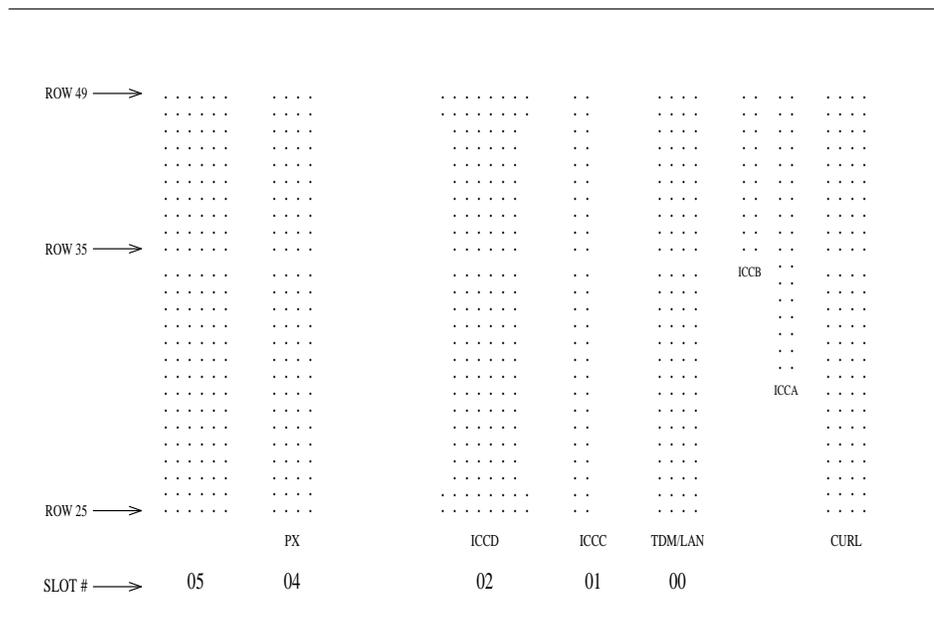

Figure 4-14. ICC Connections for R5r Control Carrier
10. See CAUTION and NOTE. Install the alarm duplication cable (H600-198 G1) between carriers "B" and "A." Connect the cable to the "ICCA" pin-field block (to the right of the pin-field block for slot "00") of both carriers (See Figure 4-14). Connect the "UAK" (upper) connector to carrier "B," and connect the "LAK" (lower) connector to carrier "A."
11. See previous CAUTION. Install the ICCC cable (H600-182 G1) between carriers "B" and "A." Connect the cable to the "ICCC" pin-field block (behind slot "01") of both carriers (See Figure 4-14).
12. See previous CAUTION and following NOTE. Install the duplication cable (WP91954 L1) between carriers "B" and "A." Connect the cable to the "ICCD" pin-field block (behind slot "02") of both carriers (See Figure 4-14).